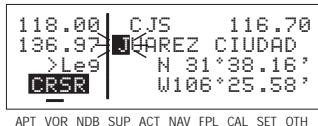

Figure 3-75
3. With the right outer knob, move the cursor over the first character in the VOR name which is being displayed (figure 3-75).